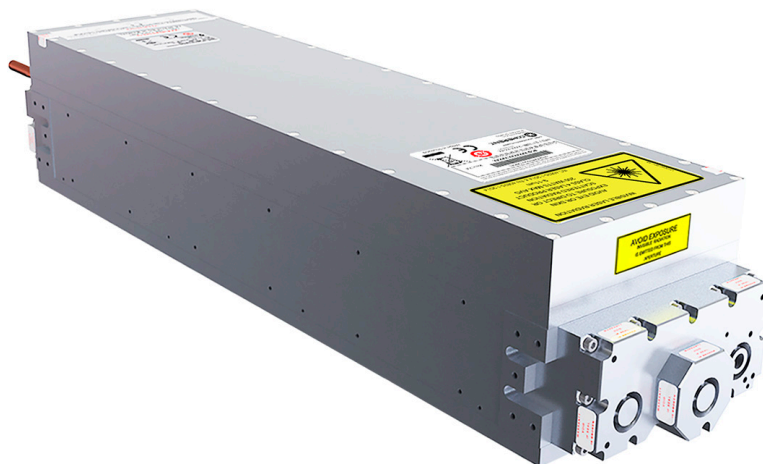

Figure 3-1. Cx-10 Series Liquid-Cooled Laser
Figure 3-1 illustrates the baseline configuration (i.e., without any optional hardware additions or deletions) of the Cx-10 Series laser. Each laser system consists of a laser head assembly and an integrated radio frequency (RF) power supply. The RF power module converts 48 VDC electrical power to radio frequency power.
The laser head takes RF input power and converts some of it to laser radiation. The rest of the RF input power is exhausted as waste heat. For the Cx-10 Series liquid-cooled laser, this waste heat is exhausted into the cooling water that flows through the laser head. The laser head consists of the folded optical waveguide resonator, the all-metal gas envelope structure, and RF power module. Infrared laser radiation is emitted from the optical aperture. Pictures and dimensions drawings for the Cx-10 Series liquid-cooled laser is shown in Figure 3-1 (p. 23) and Figure 4-2 (p. 32).